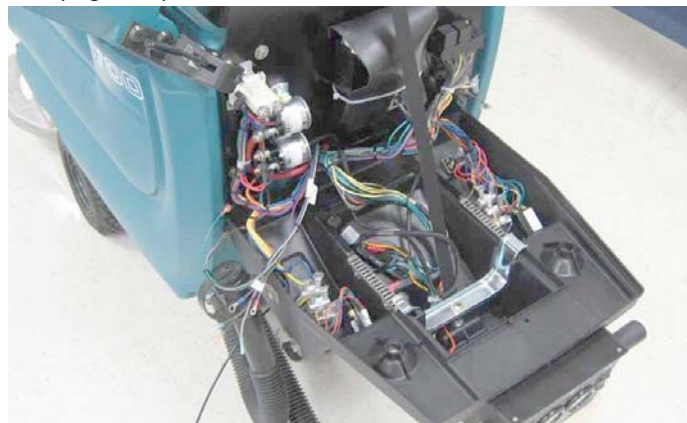

Fig. 4
2. Open the control console to access the internal wiring (Figure 4).